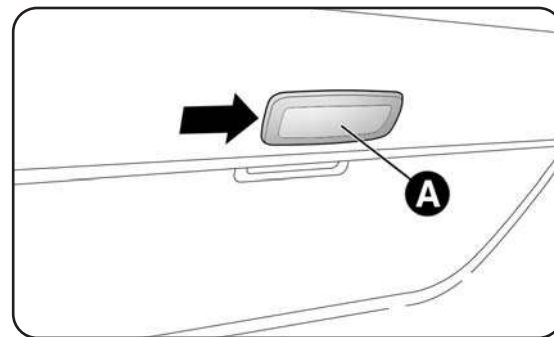

fig. 30
- work at the point shown by the arrow and remove roof light A - fig. 30;